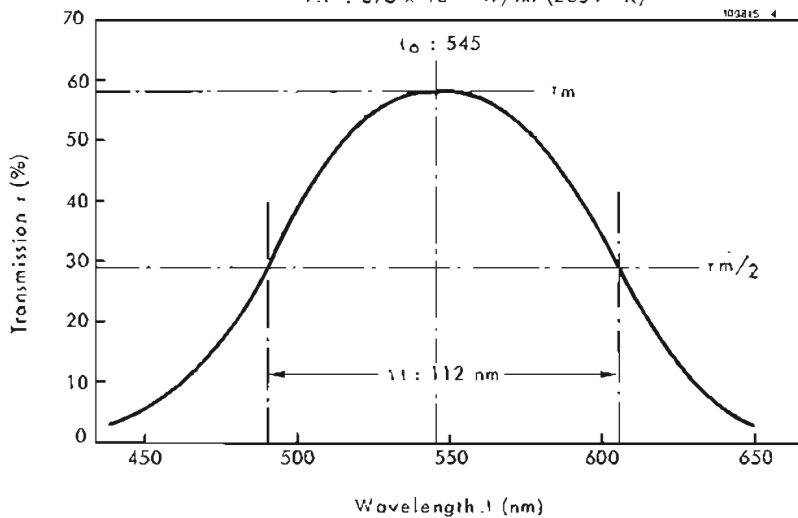

Figure 3 - Typical transmission of MTO filter assembly
Illumination from 2854 °K light source incident on MTO filters (Note 9 - Figure 3) . . . . .
- 9 – The MTO filter assembly, whose characteristics are given in Figure 3, is composed of DA 545 C + DH 543 C' filters.